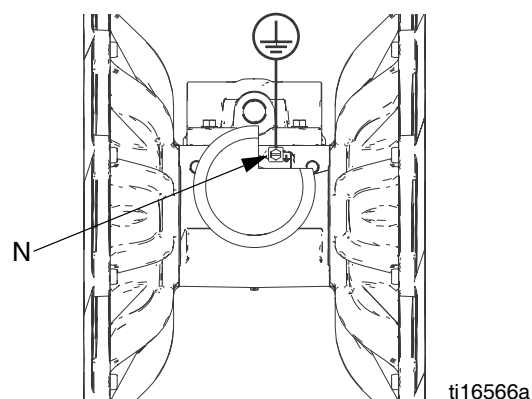

FIG. 3. Ground screw and wire
- N Ground screw (Aluminum and stainless steel only, see FIG. 3, page 9)
Pump: See FIG. 3. Loosen the ground screw (N). Insert one end of a 12 ga. minimum ground wire behind the ground screw and tighten the screw securely. Connect the clamp end of the ground wire to a true earth ground. A ground wire and clamp, Part 238909, is available from Techni-flow.